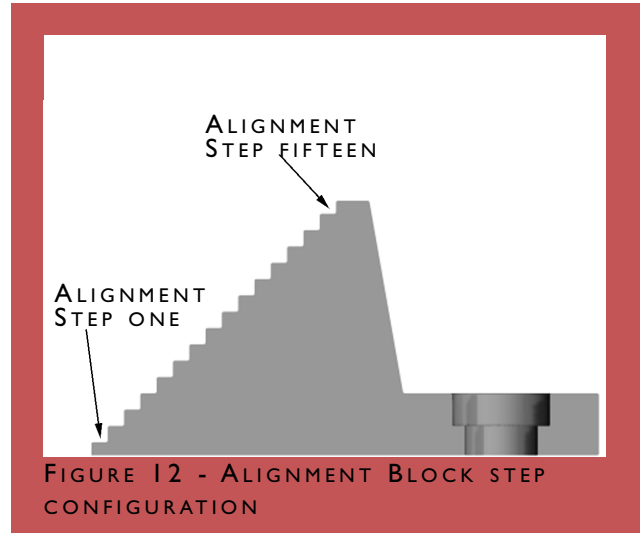

FIGURE 12 - ALIGNMENT BLOCK STEP CONFIGURATION
Each upper modules' rear spike rests on a specific step in the Alignment Block that determines its group delay position within the modular array. To determine the amount of module rotation needed, find the desired ear height and listening distance on the Alignment Table (found in Section 9) and read from it the step required. A number of one thru 15 requires the use of the standard alignment spike (see Figure 13). A number preceded by an "S" (S+1, S+2, etc) requires the use of the longer, 2-inch spike (see Figure 14). Figure 12 shows the location of the numbers on the Alignment
7. Place the spike on the step indicated from the table in Section 9 (See Figures 12, 13, and 14).